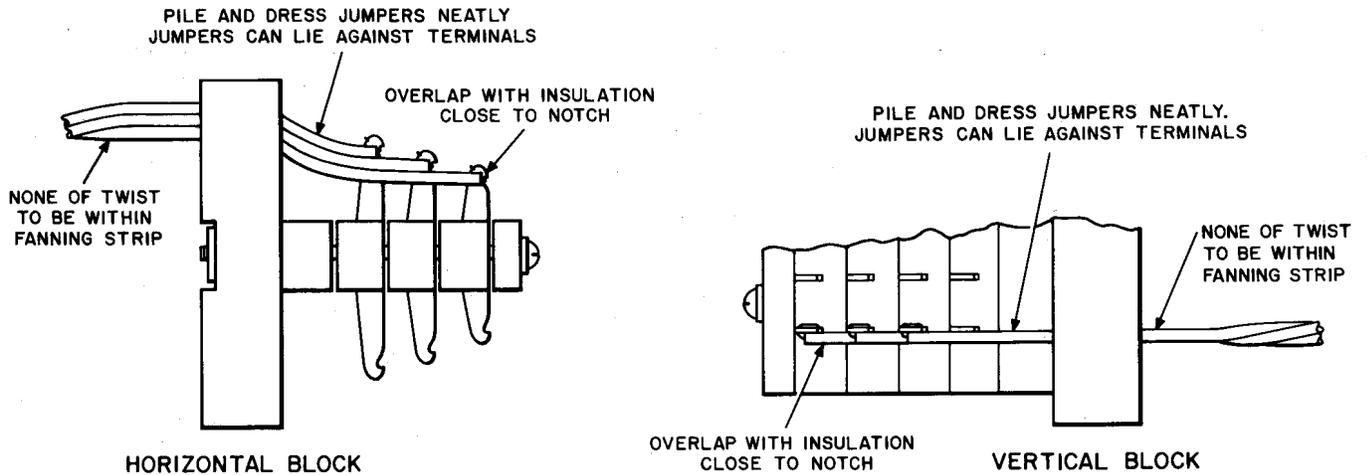

Fig. 2—Termination of Distributing Frame Wire on Terminal Strip
**7.02** When terminating jumpers, hold the wire back of the fanning strip and adjust the wire so the insulation is close to the terminal notch. Wrap the wire around the terminal in the notch and solder. Break or cut off the excess wire. Figures 2 through 10 show typical terminations.
7.10 When terminating jumpers on the type terminal strip shown in Fig. 2, connect the wire on the terminal nearest the front first and work towards the rear of the block. An exception to this procedure is in the case of IDF jumpers of subscriber lines in dial offices.